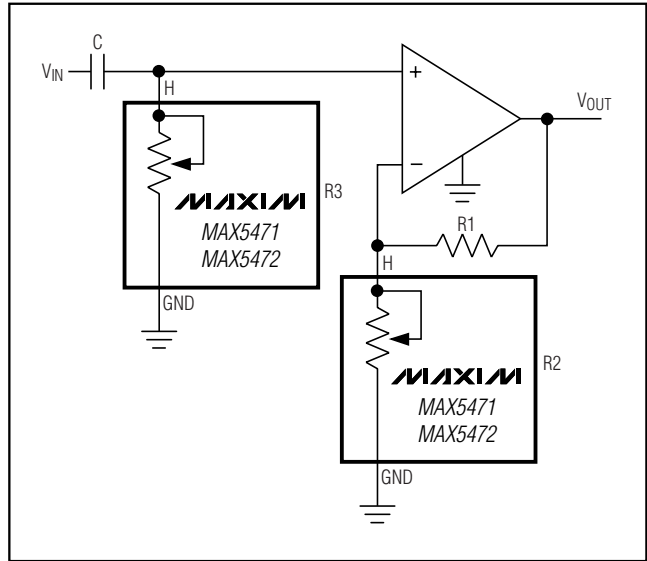

Figure 6. Programmable Filter
Figure 6 shows the configuration of a 1st-order programmable filter. The gain of the filter is adjusted by R_2 , and the cutoff frequency is adjusted by R_3 . Use the following equations to calculate the gain (G) and the 3dB cutoff frequency (f_c):